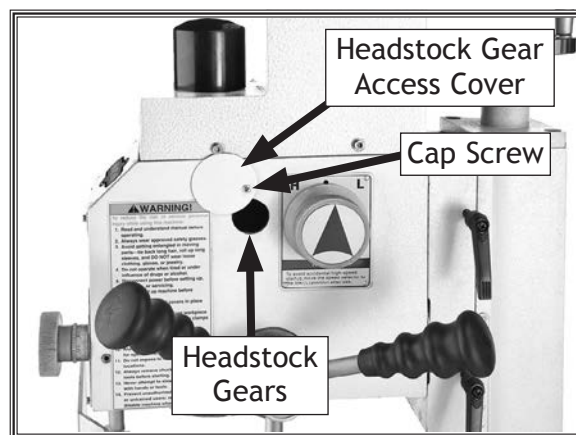

Figure 34. Headstock access cover and cap screw location.
1. Remove cap screw and headstock gear access cover shown in **Figure 34**.